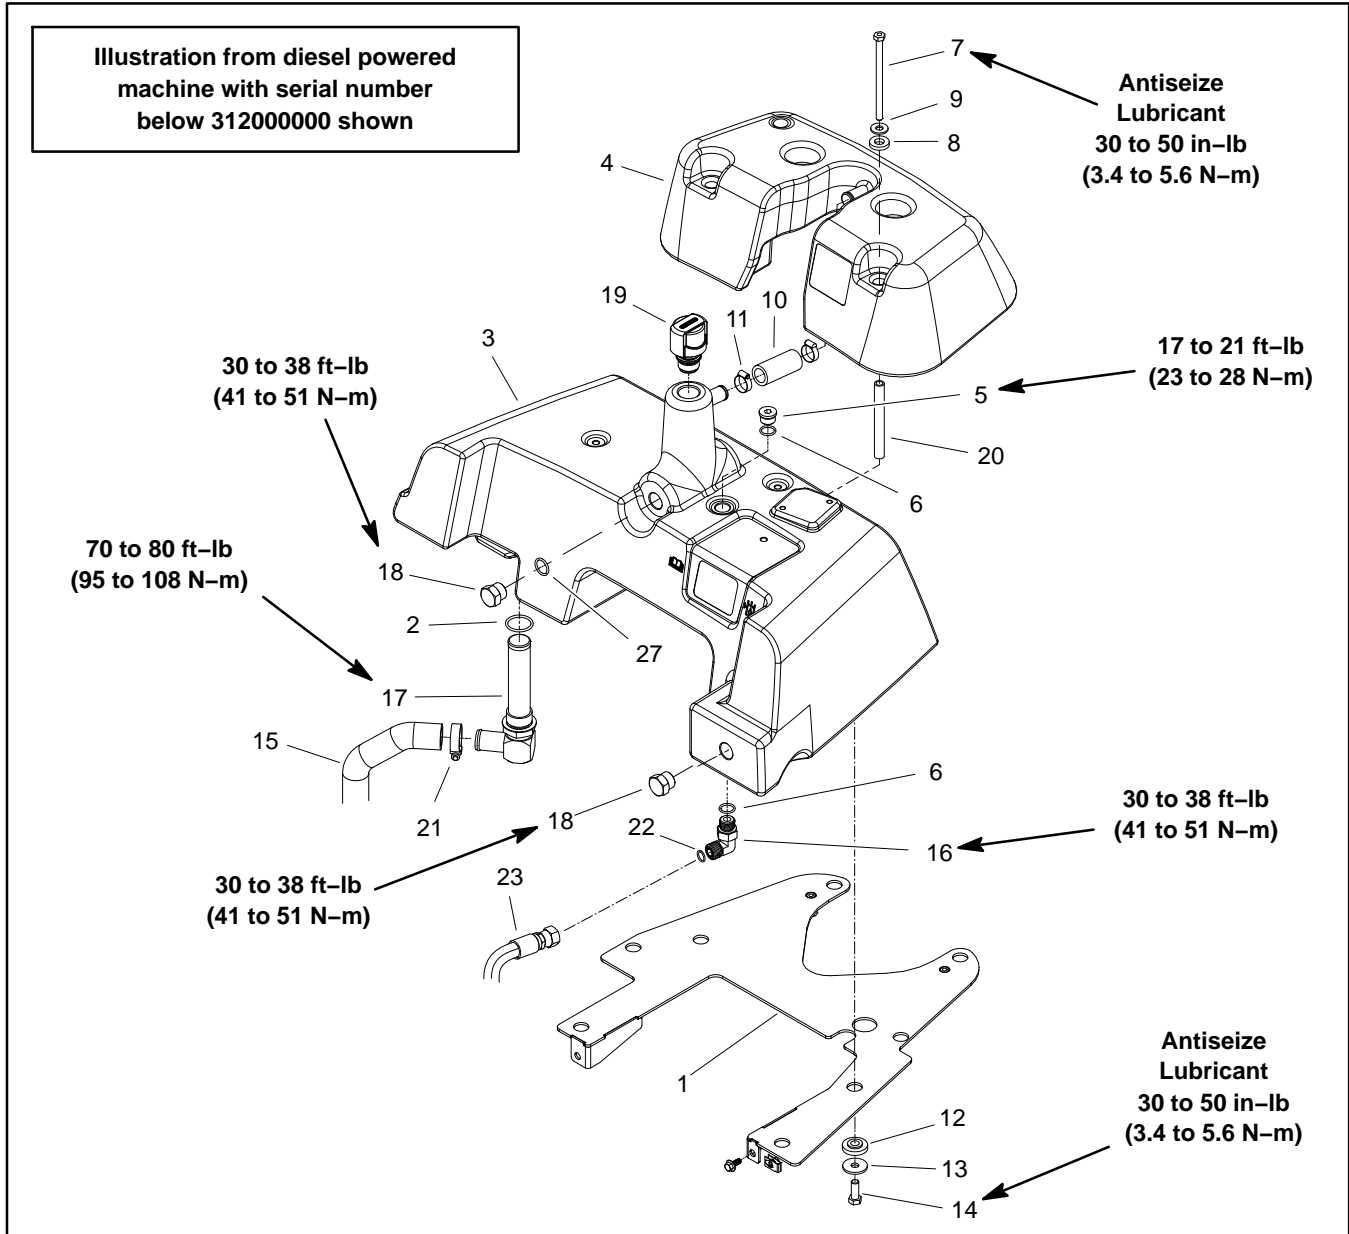

Figure 59
Removing Hydraulic Reservoir (Fig. 59)
Installing Hydraulic Reservoir (Fig. 59)
1. Lubricate and place new O-rings onto all removed fittings and plugs. Install fittings and plugs into reservoir openings. Use marks made during the removal process to correctly orientate fittings. Refer to Figure 59 for reservoir fitting and plug installation torque specifications.
3. Apply antiseize lubricant to threads of four (4) cap screws (item 14). Secure hydraulic reservoir to the tank mount plate with four (4) cap screws, flat washers (item 13) and flange bushings (item 12). Torque cap screws from **30 to 50 in-lb (3.4 to 5.6 N-m)**.